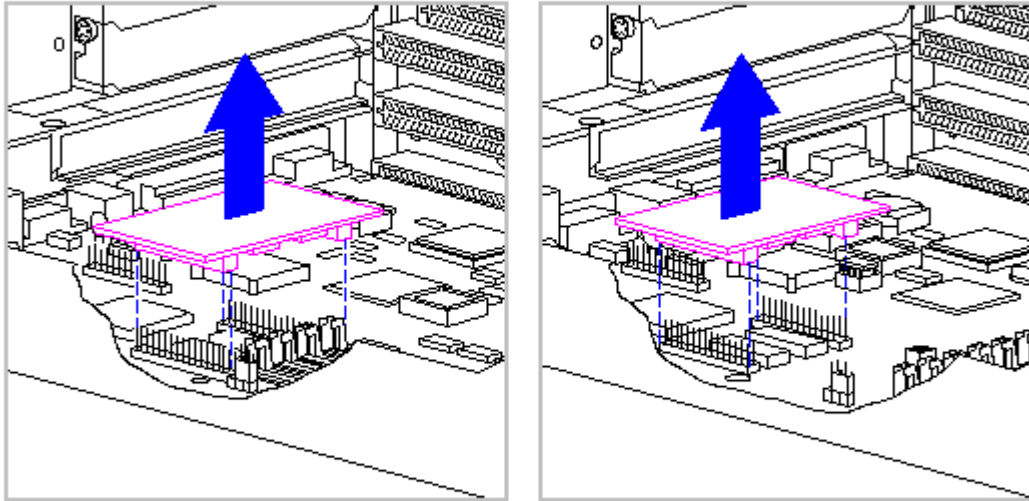

Figure 5-50. Removing the Video Memory Board
3. Remove the video memory board as shown in Figure 5-50.